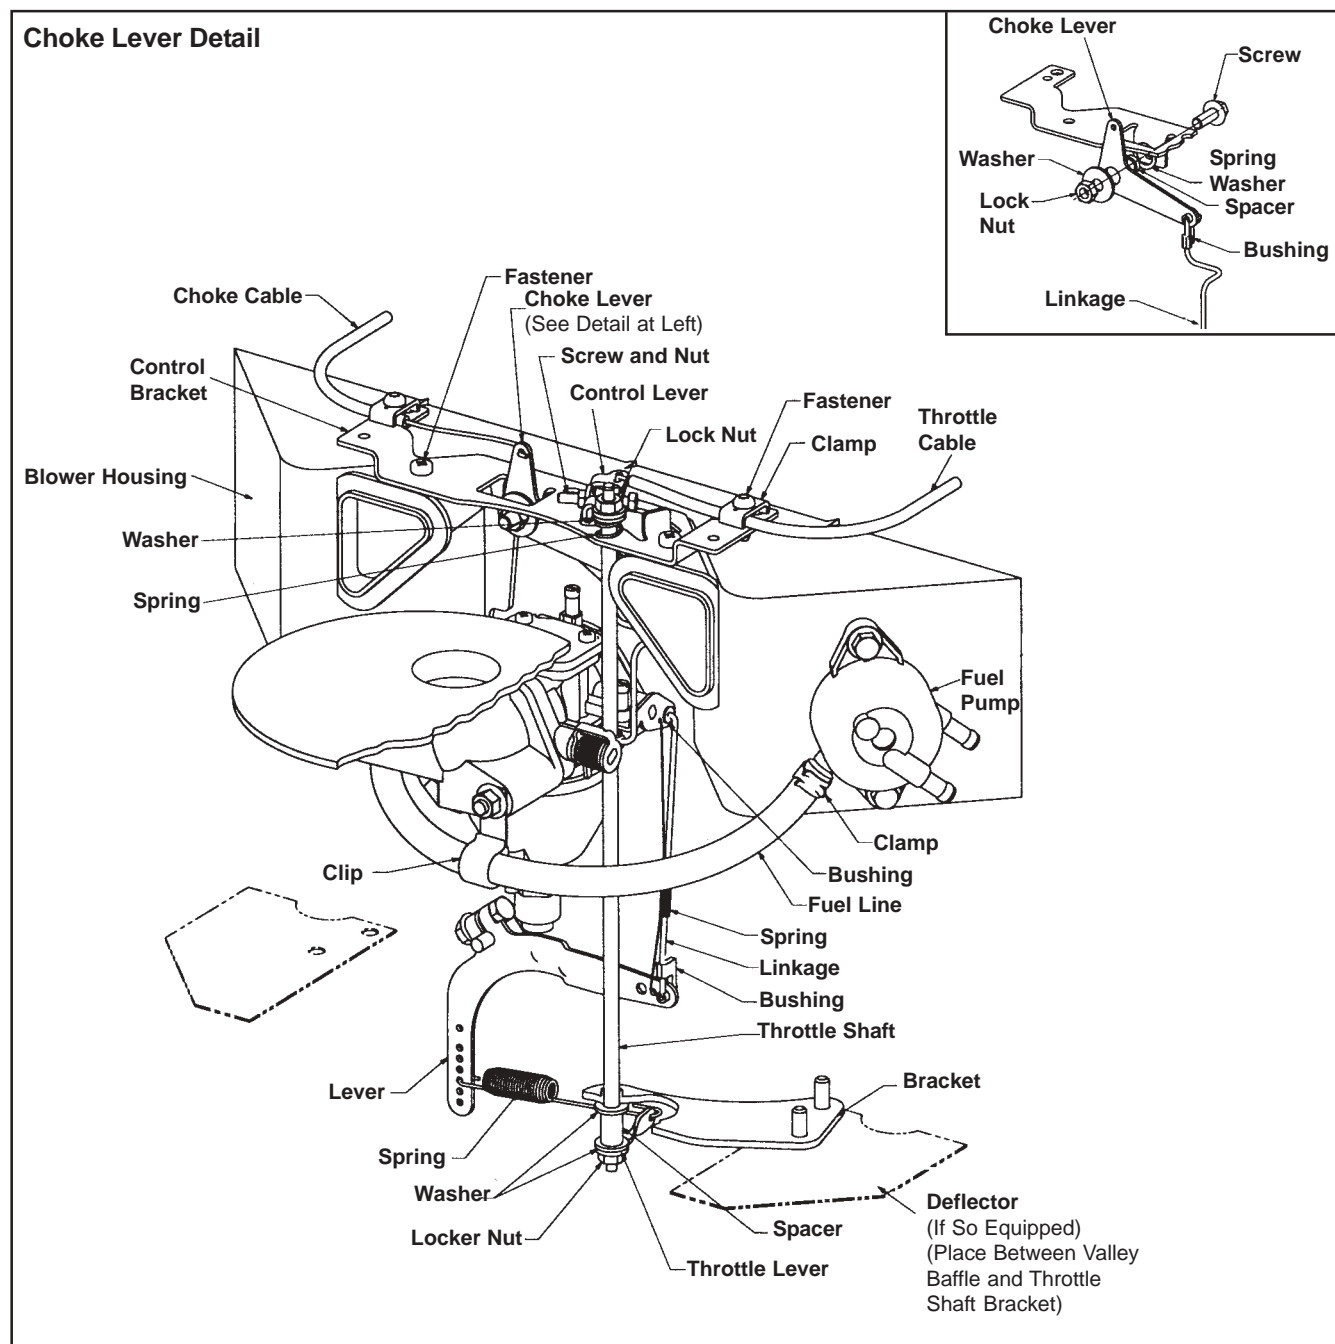
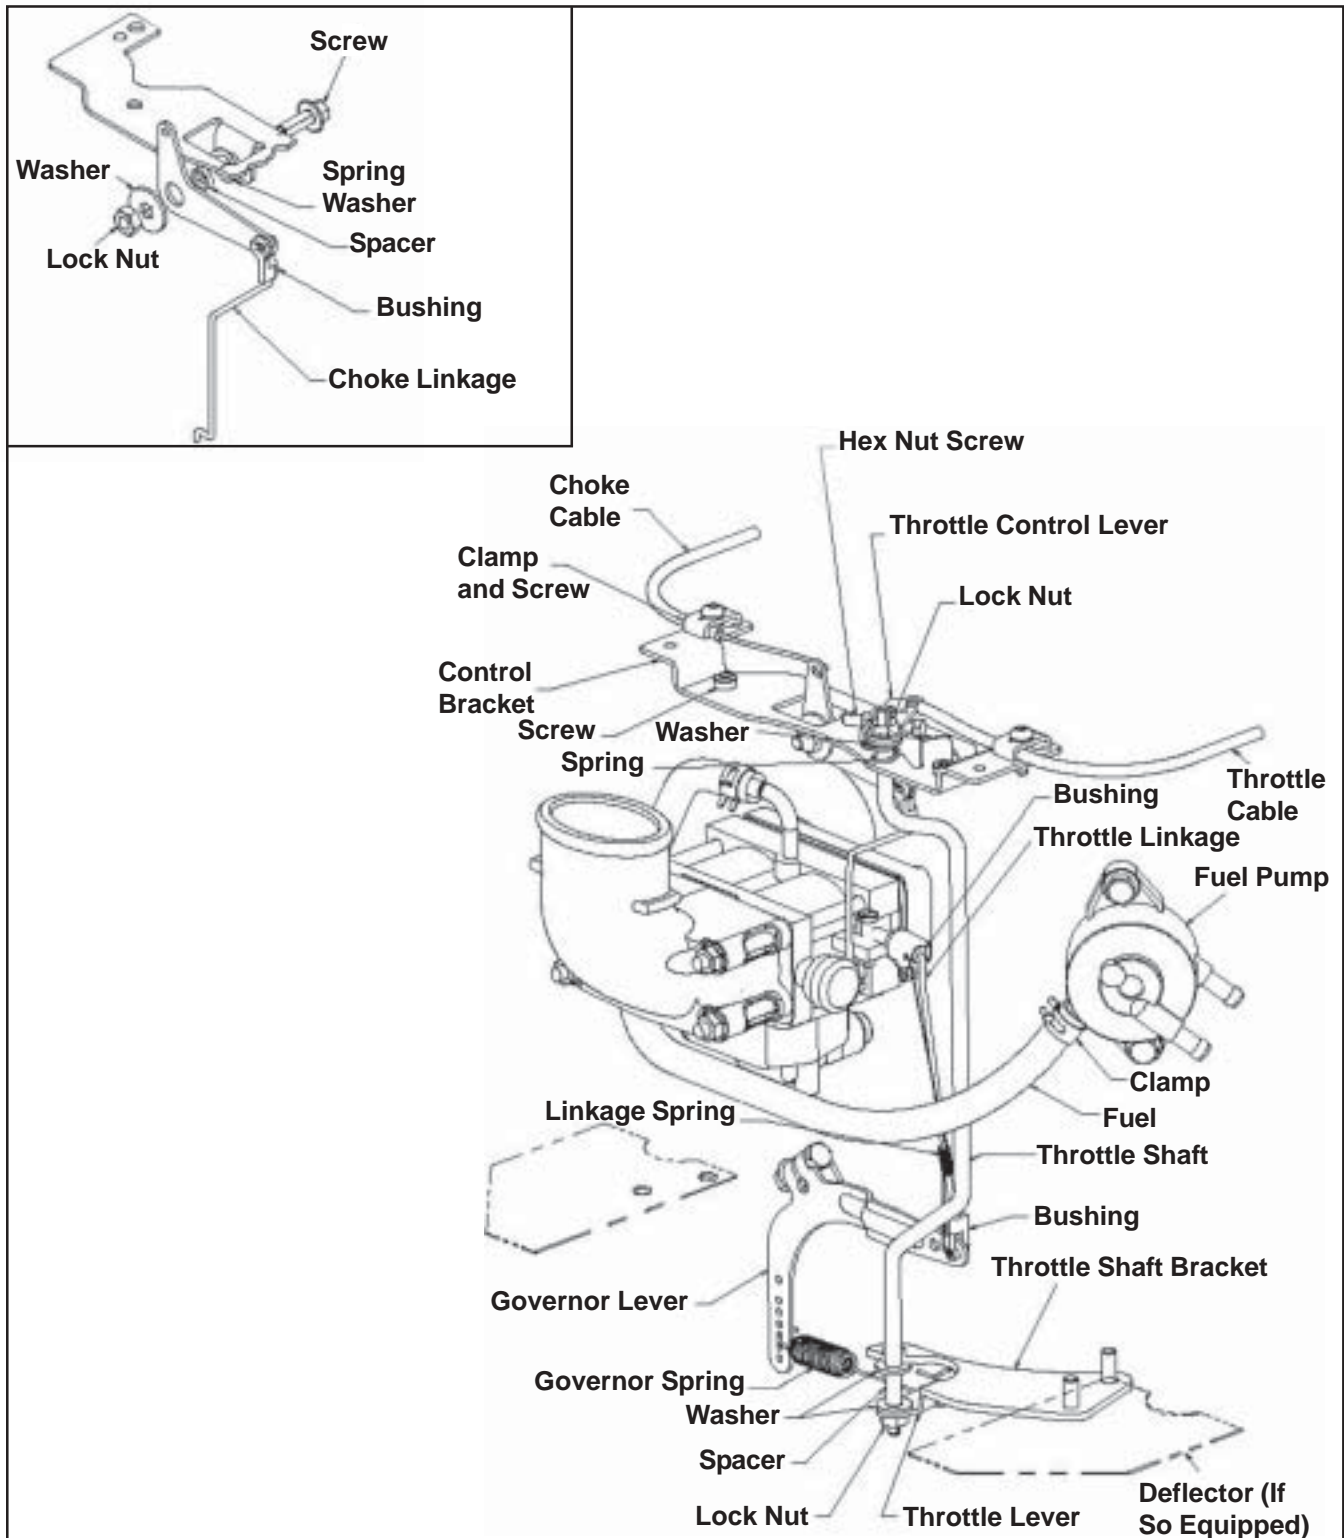

Figure 5-68. Governor Used with Commercial Mower Air Cleaner (CV17-745).
Figure 5-69. Governor/Controls Assembly (CV750).
The Commercial Mower governor arrangement shown in Figure 5-68 is used primarily on wide area walk behind mower applications. The initial adjustment and sensitivity adjustment is the same as for the standard governor. The governor and controls for the CV750 engine is shown in Figure 5-69. Should the governor spring be disconnected from the throttle lever and governor lever, reconnect it as follows:
2. Rotate the spring 180° until hooked as shown in Figure 5-69.